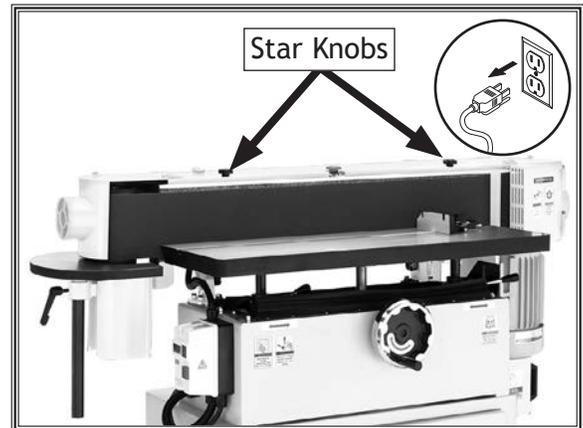

Figure 5. Star knobs securing belt access door.
2. Open belt access door by removing star knobs (see **Figure 5**) and opening all latches.